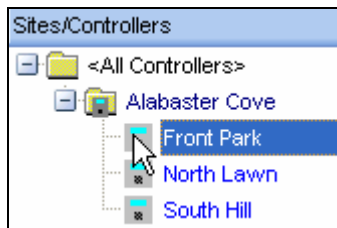

Figure 20.3.2
2. Next select a controller from your Site/ Controller list that you want to get the alerts from by highlighting the specific Site / Controller (Figure 20.3.2).